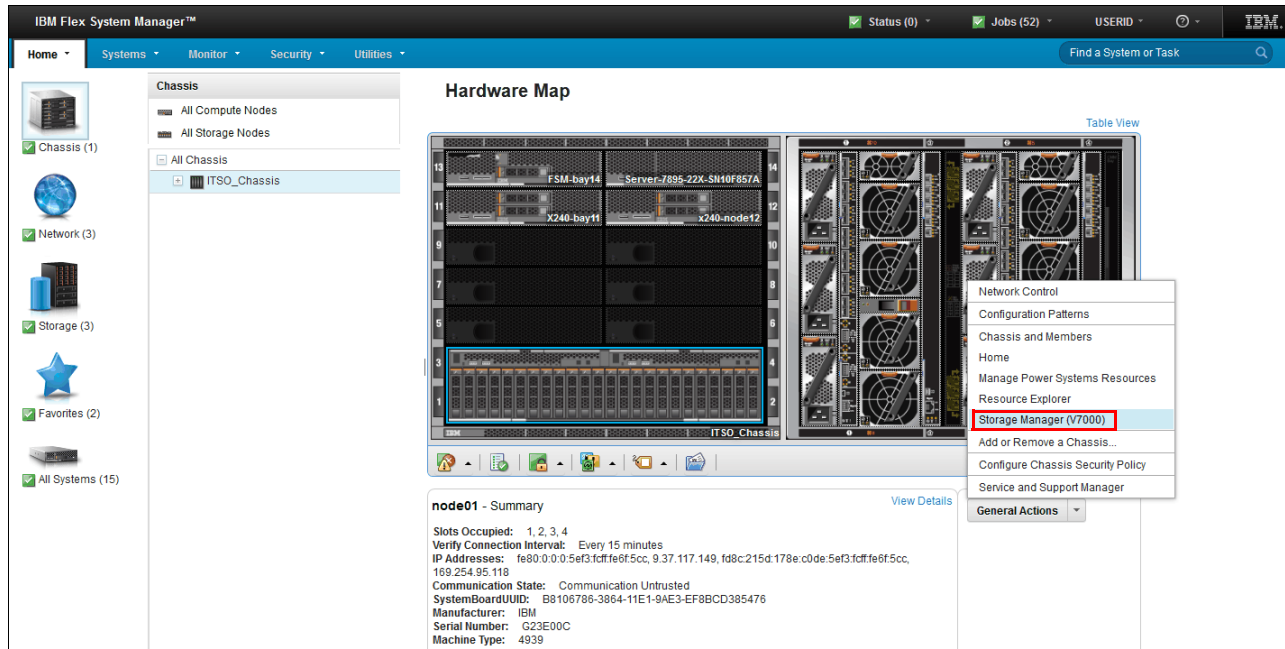

Figure 4-5 Launch Storage Manager (V7000)
4. Navigate to General Actions and click Launch IBM Flex System V7000 Storage Node Manage (V7000) as shown in Figure 4-5 to start the Initial Setup wizard. If you do not see this option, examine the Service IP setting for the storage node. See to 4.5.1, “Change Service IP address” on page 170, for details.